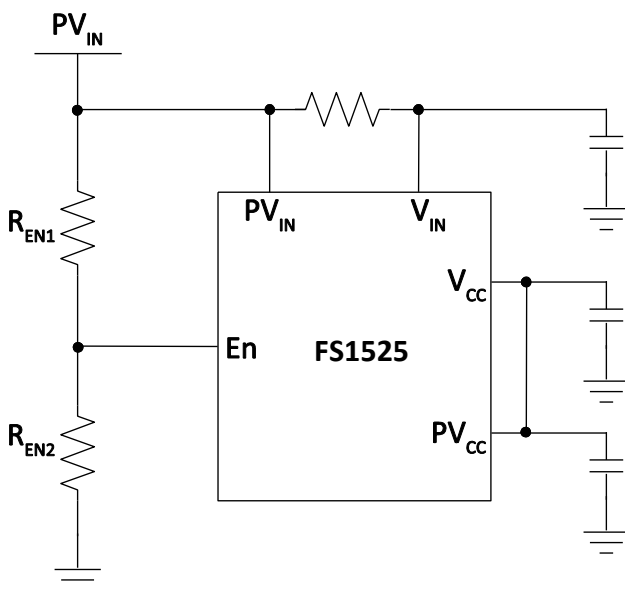
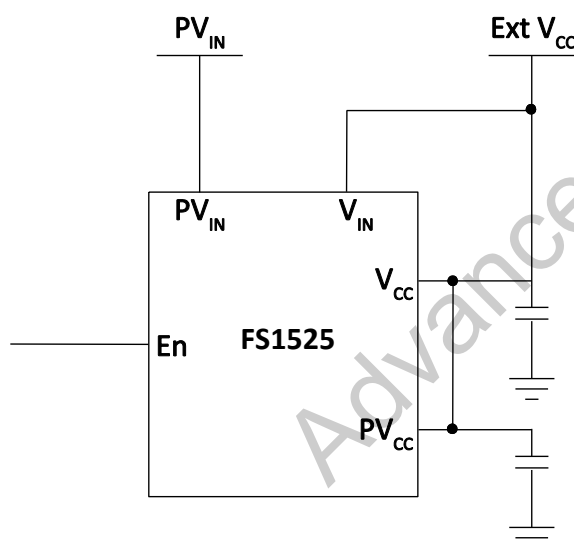

Figure 5 Single supply configuration: internal LDO regulator, adjustable PV_{IN_UVLO}
Figure 6 Using an external bias voltage
The FS1525 has an integrated Low Drop-Out (LDO) regulator providing the DC bias voltage for the internal circuitry. The typical LDO regulator output voltage is 5.2V. For internally biased single-rail operation, the V_{IN} pin should be connected to the PV_{IN} pin (Figure 5). If an external bias voltage is used, the V_{IN} pin should be connected to the V_{CC} pin to bypass the internal LDO regulator (Figure 6). There is a separate pin to provide bias for the drivers (PV_{CC}); this should be connected to V_{CC} in the application circuit. It is recommended that the V_{IN} should have a minimum slew rate of 0.06 V/ms.
- It can be used to implement a precise input voltage UVLO. The input of the En pin is derived from the PV_{IN} voltage by a set of resistive dividers, R_{EN1} and R_{EN2} (Figure 5). Users can program the UVLO threshold voltage by selecting different ratios. A useful feature that stops the FS1525 regulating when PV_{IN} is lower than the desired voltage, this may be used for finer control over the PV_{IN} UVLO voltage levels than is provided by the VIN_ON/VIN_OFF commands.